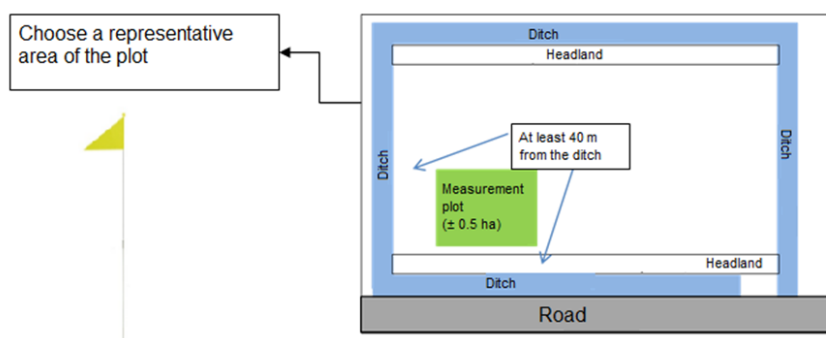

Figure 1: selecting a representative area of the plot
- Within your field, select a representative area of maximum 1 ha (Figure 1). If you want, you can also select a certain spot in the field (point sampling)